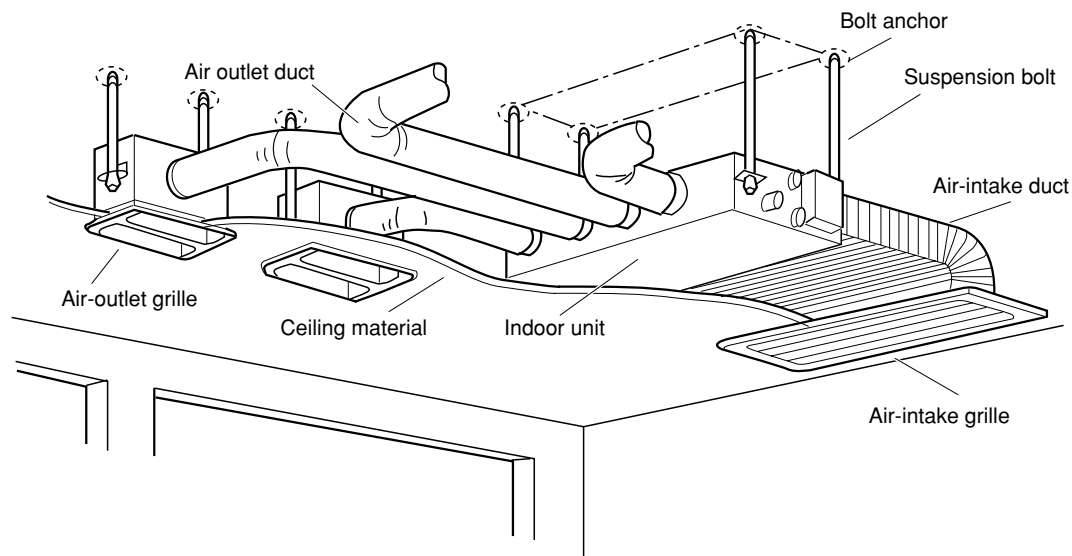

Fig. 3-62
- Fig. 3-62 shows an example of installation.